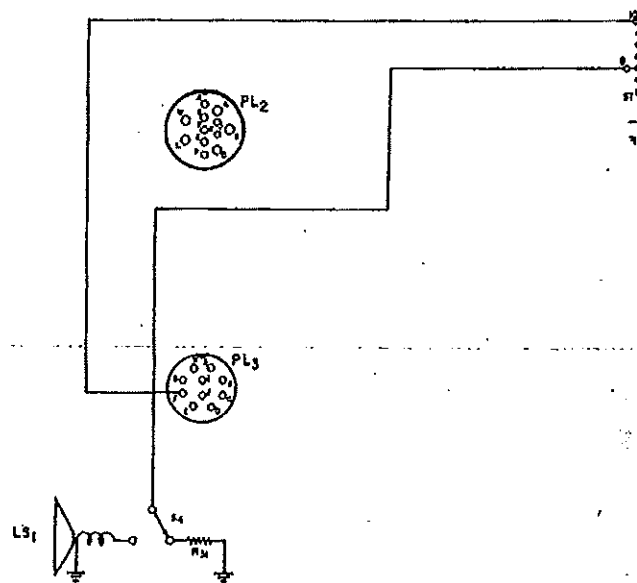

Fig. 19
- (f) In BC-669-B, and BC-669-C transformer T_9 has a 100 ohm secondary which is connected to Headset HS-30-(*). A 6 ohm tap is provided on T_9 secondary and is connected to switch S_4 . (See Fig. 19).
- (1) In position 1 meter M_2 is connected in series with the high voltage plate supply circuit of modulator tubes V_{12} , V_{13} , V_{14} and V_{15} , with resistor R_{63} as a shunt, for indicating modulator plate current.
- (2) In position 2 this meter is connected in series with the secondary of modulation transformer T_{12} in the high voltage plate supply circuit of power amplifier tubes V_8 and V_9 , with resistor R_{64} as a shunt, for indicating power amplifier plate current.
- (3) In position 3 meter M_2 is connected in the control grid circuit of tubes V_8 and V_9 through contact 7 of plug PL_1 and socket SO_1 for indicating power amplifier grid current.
a. *Electrical Circuits*—(See figure 19.) Remote Control Unit RM-21-(*) contains circuits for the control of Power Unit PE-108-(*), switching from transmit to receive, voice modulating the transmitter, and operation of handset or microphone from a remote position.